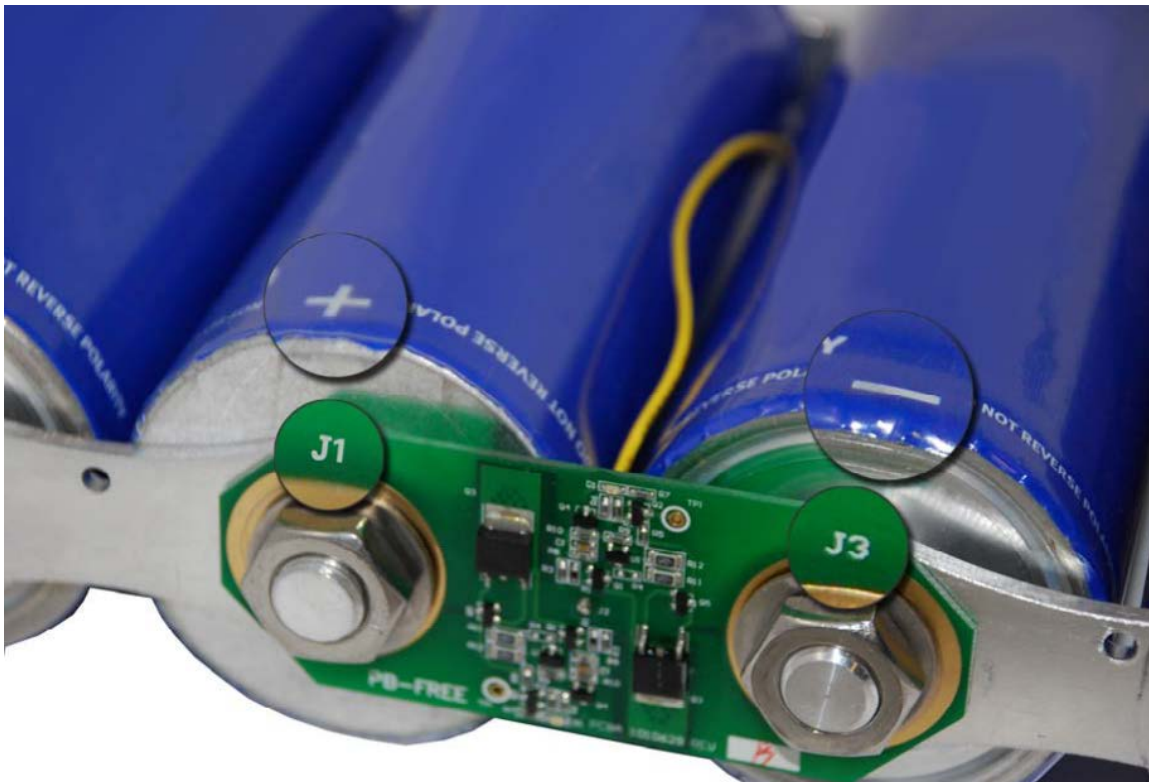

Figure 9
- 3.2.8 **Note:** The voltage management board is polarized. **J1 on the board is positive; J3 is negative.** Ensure correct polarities of capacitor terminal and voltage management board are connected. (Figure 9)